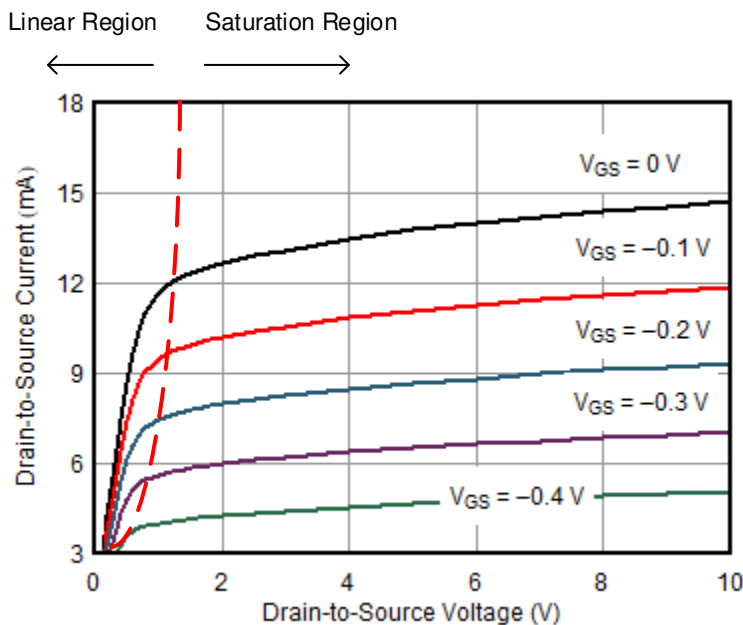

图 8-1.  $V_{DS}$  vs  $I_{DS}$
- For  $V_{GS} > V_{GSC}$ : Two modes of operation can exist depending on  $V_{DS}$ . When  $V_{DS}$  is less than the linear (saturation) region threshold (see 图 8-1), the device operates in the linear region, meaning that the device behaves as a resistor connected from drain-to-source with minimal variation from any changes in  $V_{GS}$ . When  $V_{DS}$  is greater than the linear (saturation) region threshold,  $I_{DS}$  has a strong dependance on  $V_{GS}$ , where the relationship is described by the parameter  $g_m$ .